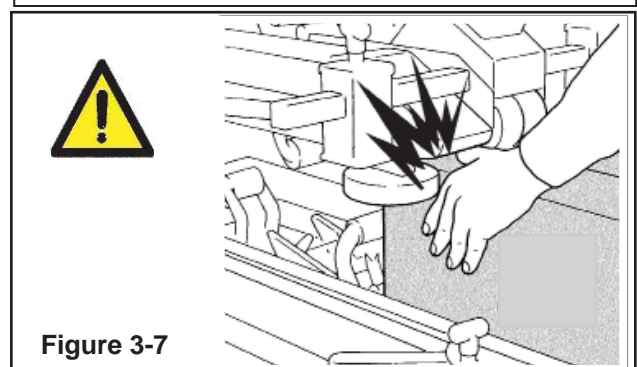

Figure 3-7
**Important!** Side flap compression rollers. Never keep hands on the box while it is driven by the belts (Figure 3-7).